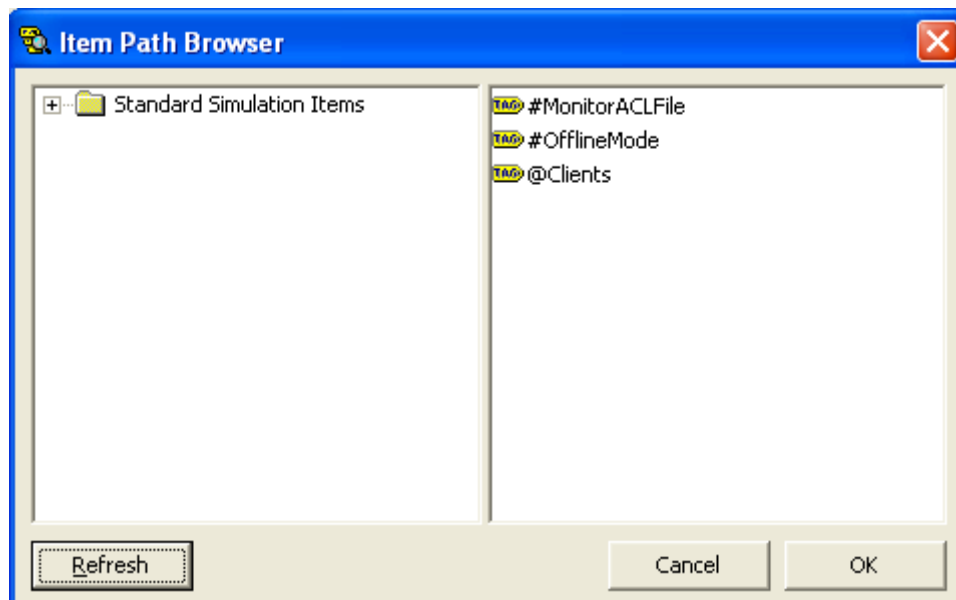

Figure 53 - Item Path Browser
7. The **Item Path Browser** (Figure 53) is displayed.